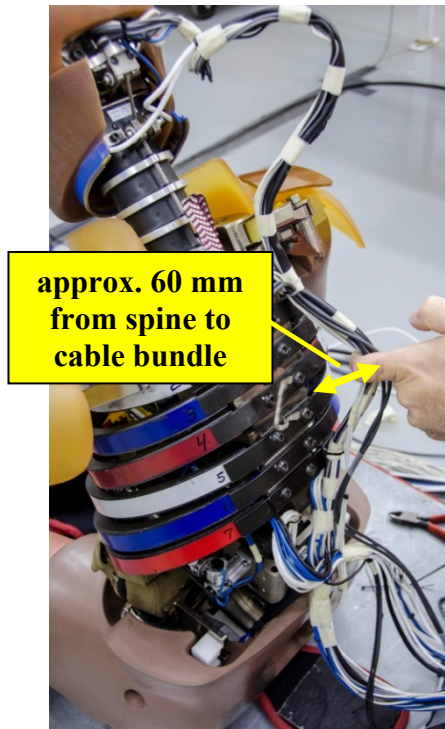

Figure 15-26. Assure sufficient slack for spine flexion
15.4.2.6 To check that there is sufficient slack to allow for flexion of the spine (Figure 15-26), pull the bundle (gently) away from the spine, there should be approximately 60 mm of space between the instrumentation cable and the spine.